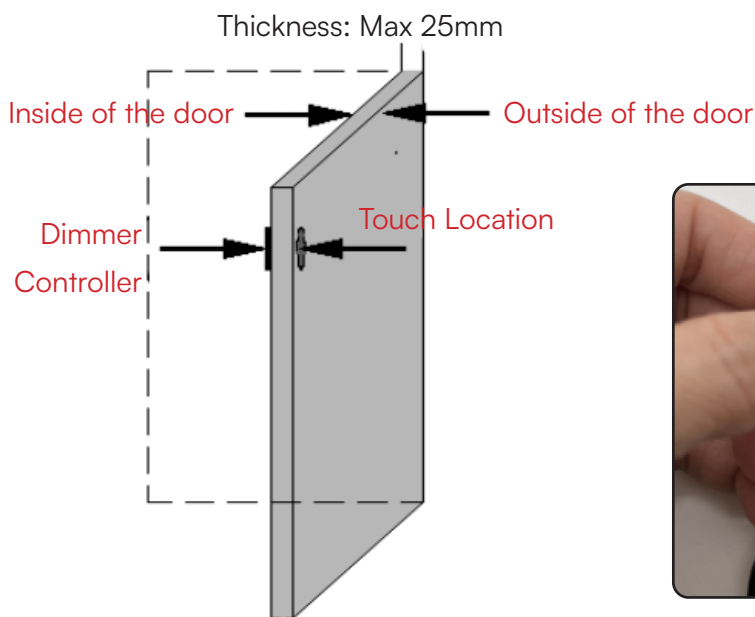

FIG 1
1. Clean the inside of the door thoroughly and install the controller here.(FIG 1)
3. Stick the dimming switch on the mounting surface(FIG 1)